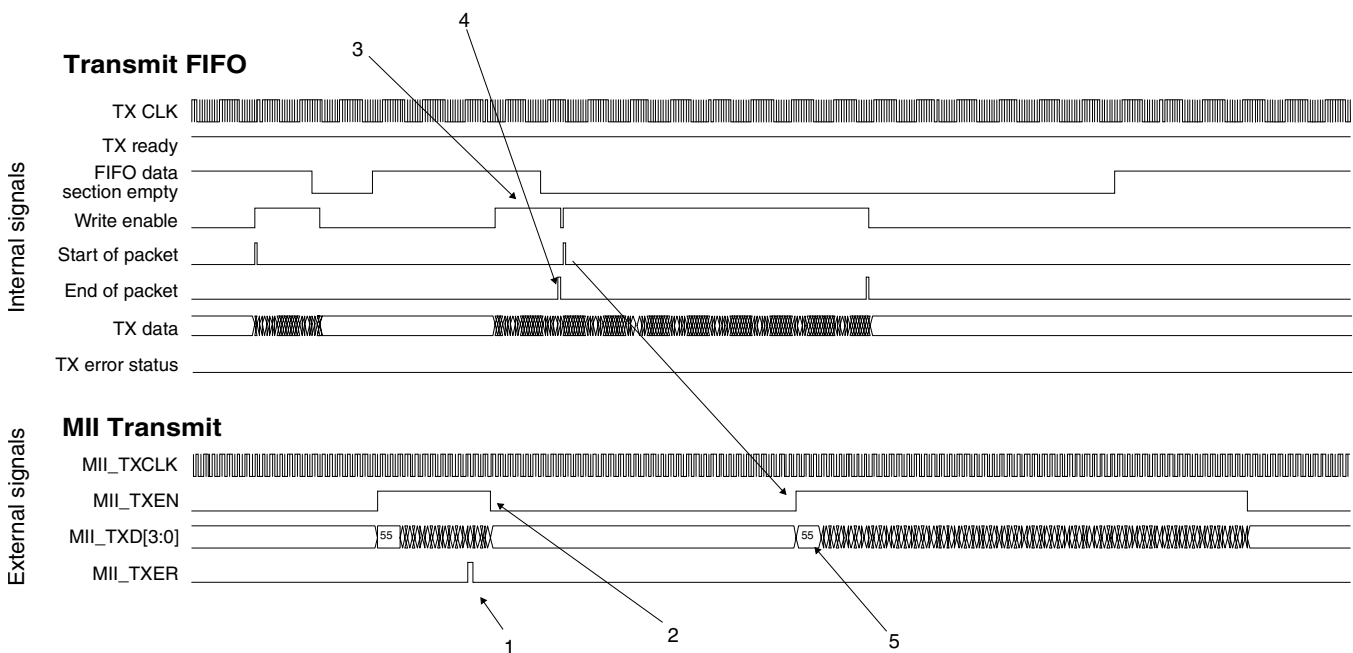

Figure 11-91. Transmit FIFO underflow protection
- Asserts the MII error signal (MII_TXER) (1 in Figure 11-91) to indicate that the fragment already transferred is not valid
- Deasserts the MII transmit enable signal (MII_TXEN) to terminate the frame transfer (2)